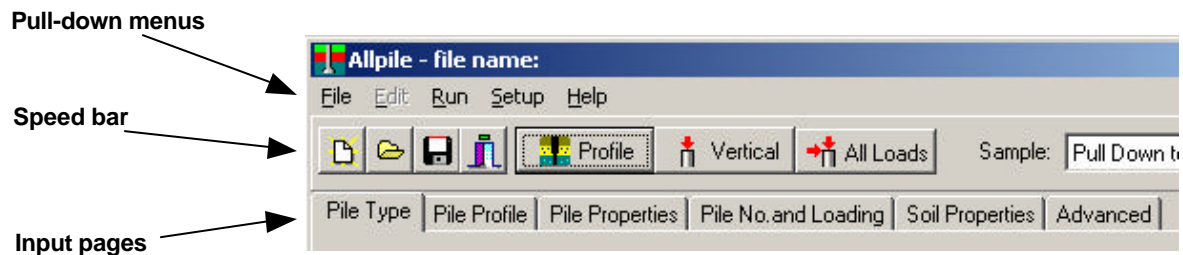

Figure 3-2. Main Components of Program Interface
- Step 1. Input Data:** Enter information into the tabbed input pages (Figure 3-2). This step is described in detail in Chapter 4.
AllPile's program interface has three main components (Figure 3-2):